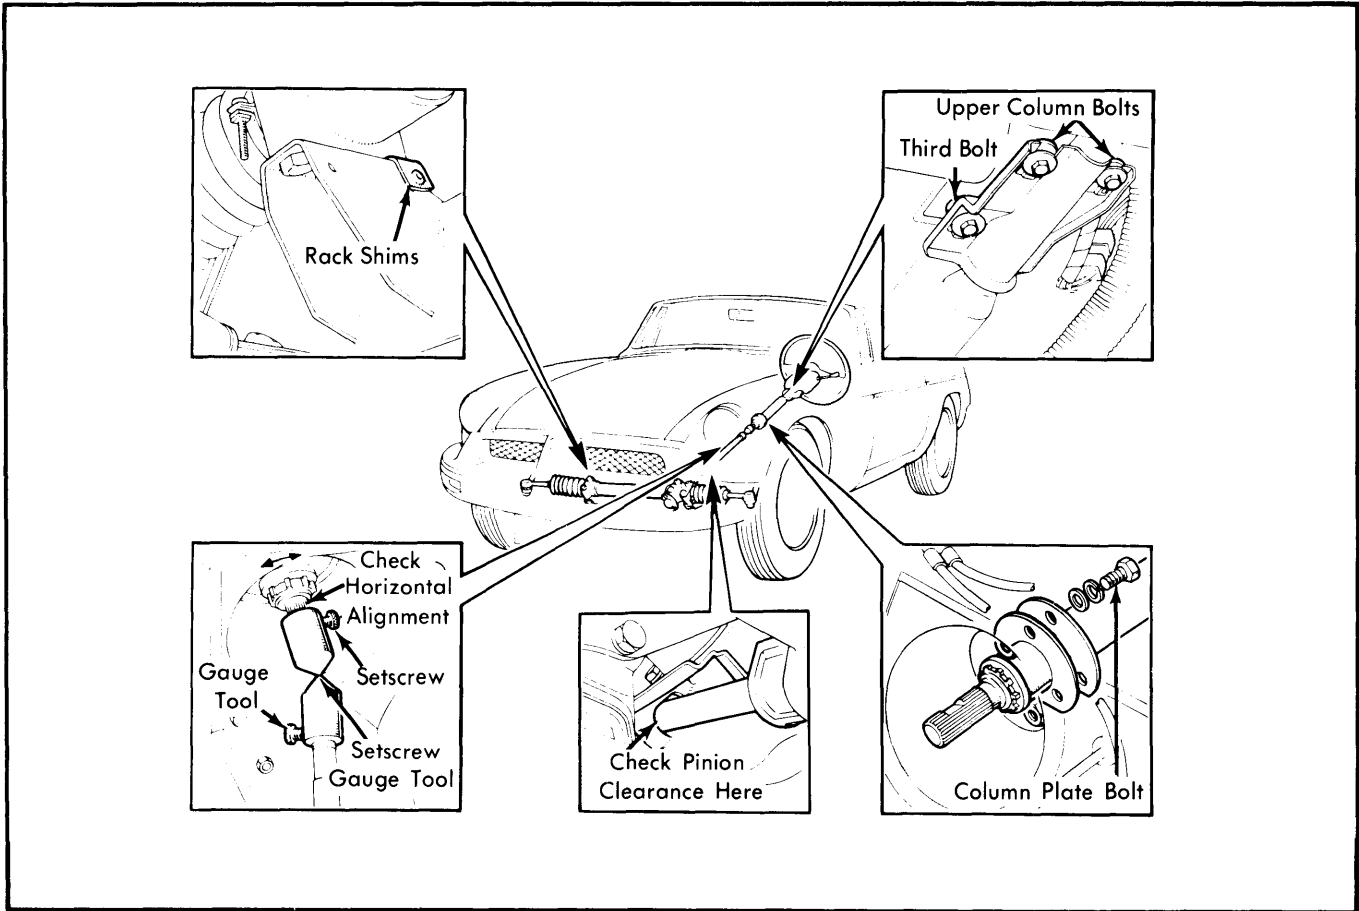

Fig. 2 Steering Column Alignment Steps
1) Remove "U" joint. Fit alignment gauge shown in Fig. 2. Make sure setscrew seats in splined groove.